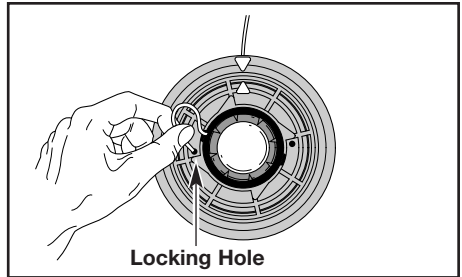

Fig. 12
3. Insert the line into the locking hole (Fig. 12) no more than 1/2 inch (12.7 mm). Do not push the line too far into the inner reel. A small loop is formed when the line is inserted correctly (Fig. 12).